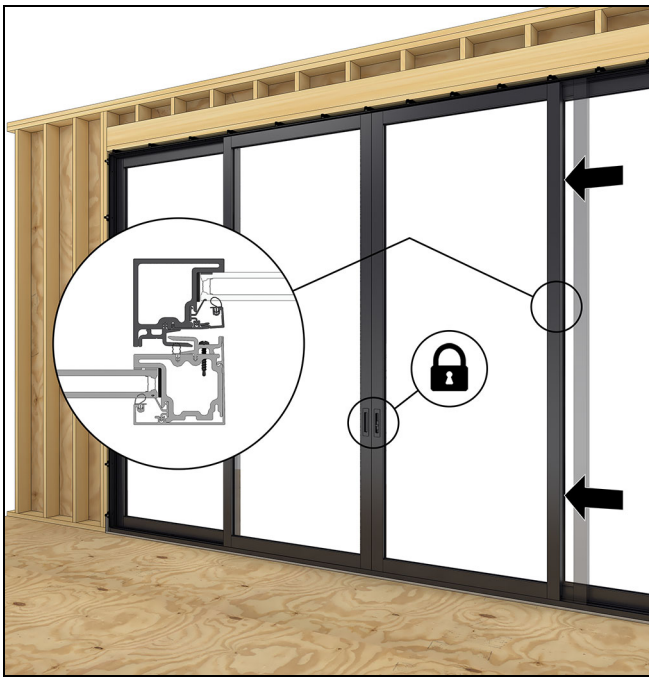

Figure 122
6. Slide and close the A panel to engage the interlock with the stationary panel and lock the panel into the strike on the (E) panel for safety. See Figure 122.